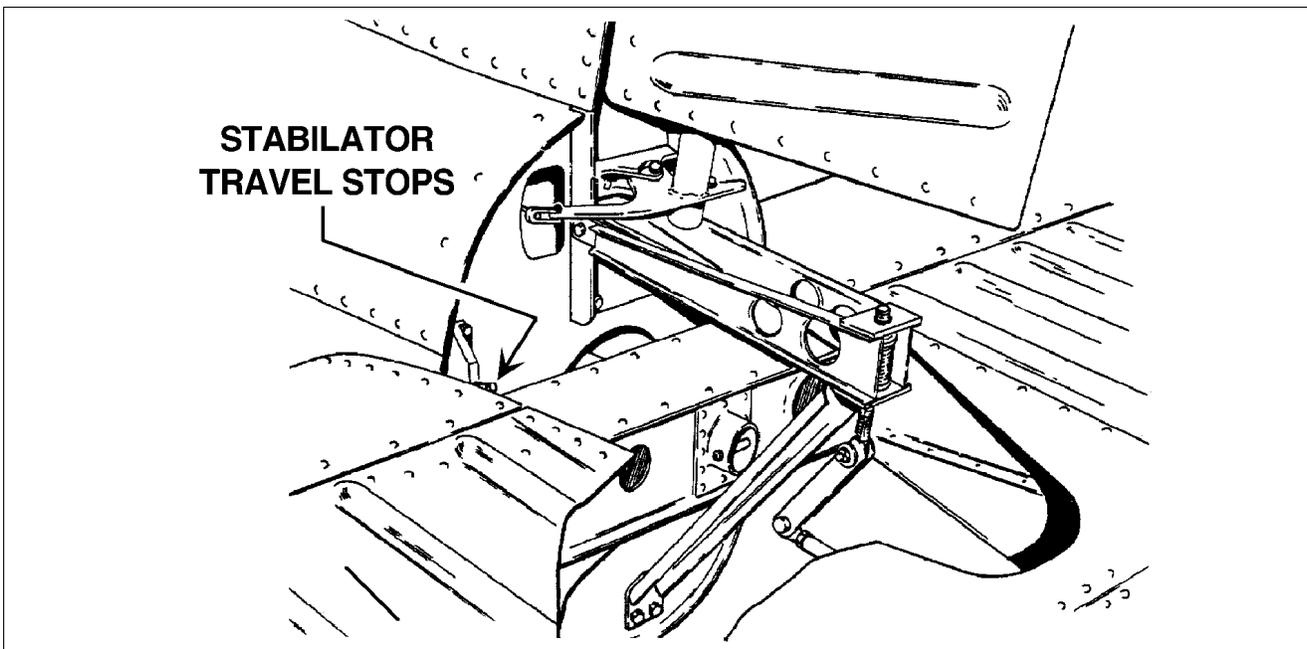

Figure 27-21. Stabilator Travel Adjustments
- (1) Remove tail cone by removing the attachment screws.
- (2) With use of rigging tool and bubble protractor, turn stops located at each stabilator hinge in or out to obtain correct degree of travel. (Refer to Figure 27-21.)
- (3) Check that locknuts of stop screws are secure.
- (4) Install the tail cone.